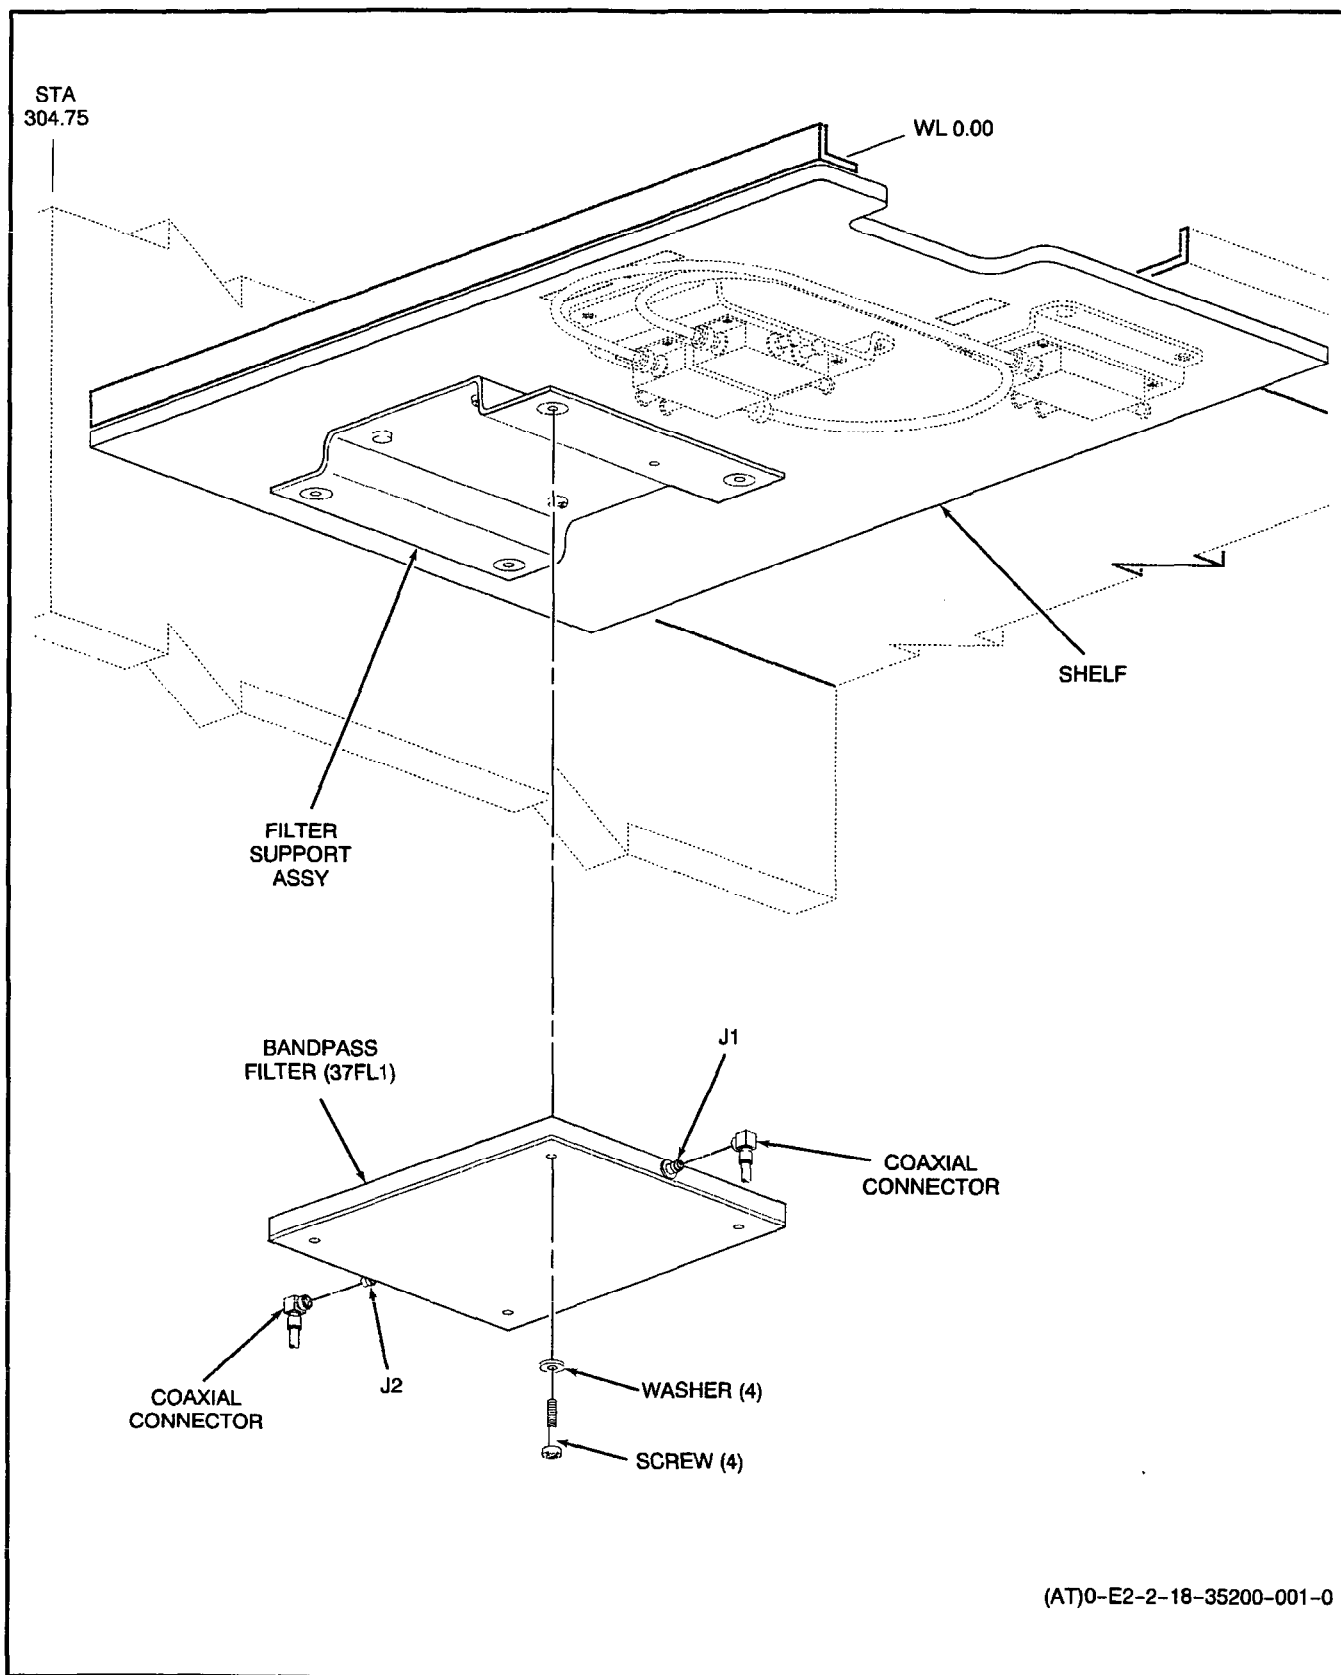

Figure 1. Removal and Installation of SINS Alignment Bandpass Filter
2. The SINS Alignment Bandpass Filter, Part No. 123SCAV5877-1 (bandpass filter) (37FL1), is part of the Digital Data Communications System. The bandpass filter is mounted on the underside of an existing placarded shelf, just forward of couplers 46A20, 46A22, and 46A24 (see figure 1). The shelf is on the right side of the equipment compartment, at station 304.75, WL 0.00.
**3. REMOVAL.** (Figure 1.)
4. **INSTALLATION.** (Figure 1.)